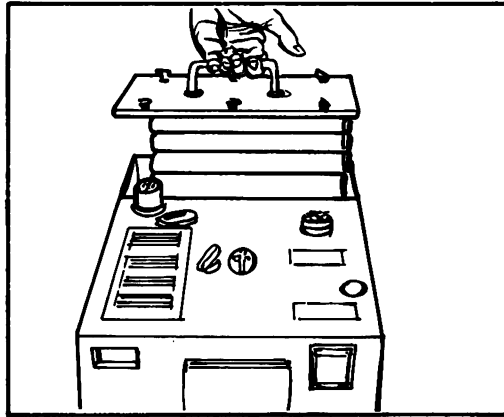

Figure 13. Install battery assembly.
a. Remove the cover from the missile guidance set. Install a battery assembly in the battery well, insuring that the electrical connectors are properly aligned before seating the battery. Tighten the six winged nuts to secure it (figure 13).